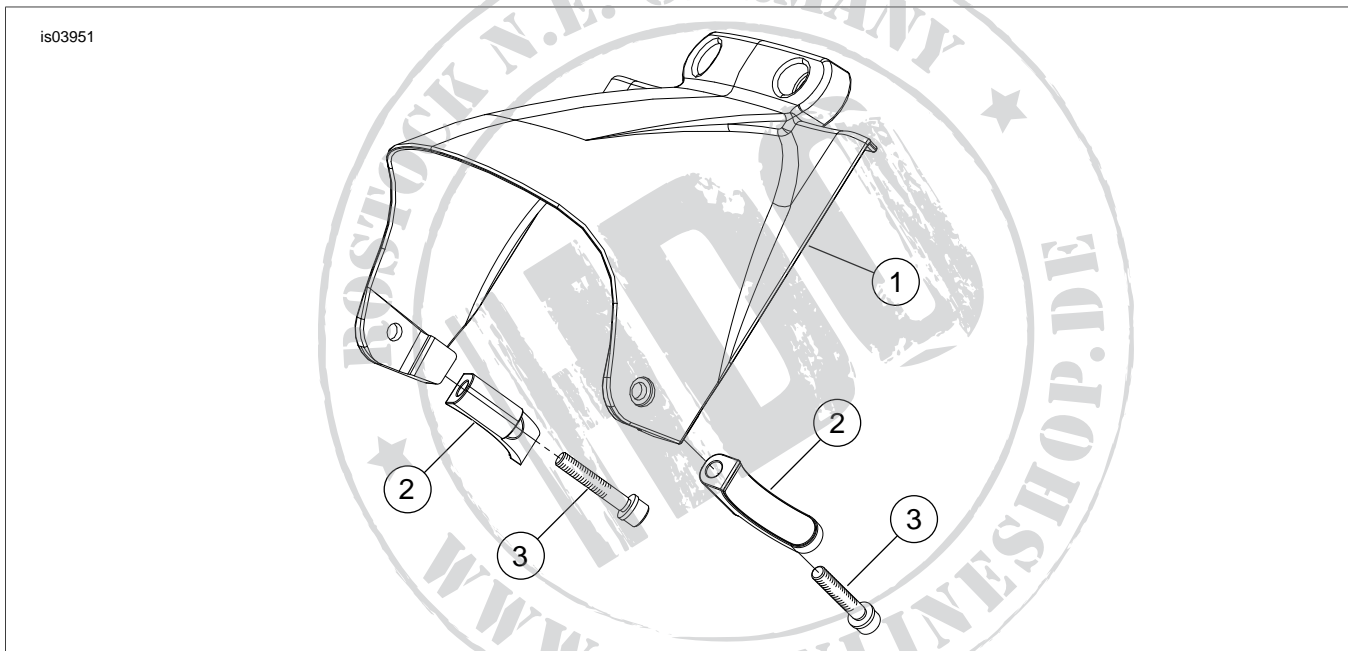

Figure 3. Service Parts: Chrome Headlamp Bracket
See Figure 3 and Table 1.
5. See Figure 3. Install headlamp mounting bracket (1) using fasteners retained from Step 3. Tighten fasteners to 11 - 18 Nm (97 - 159 in-lbs)